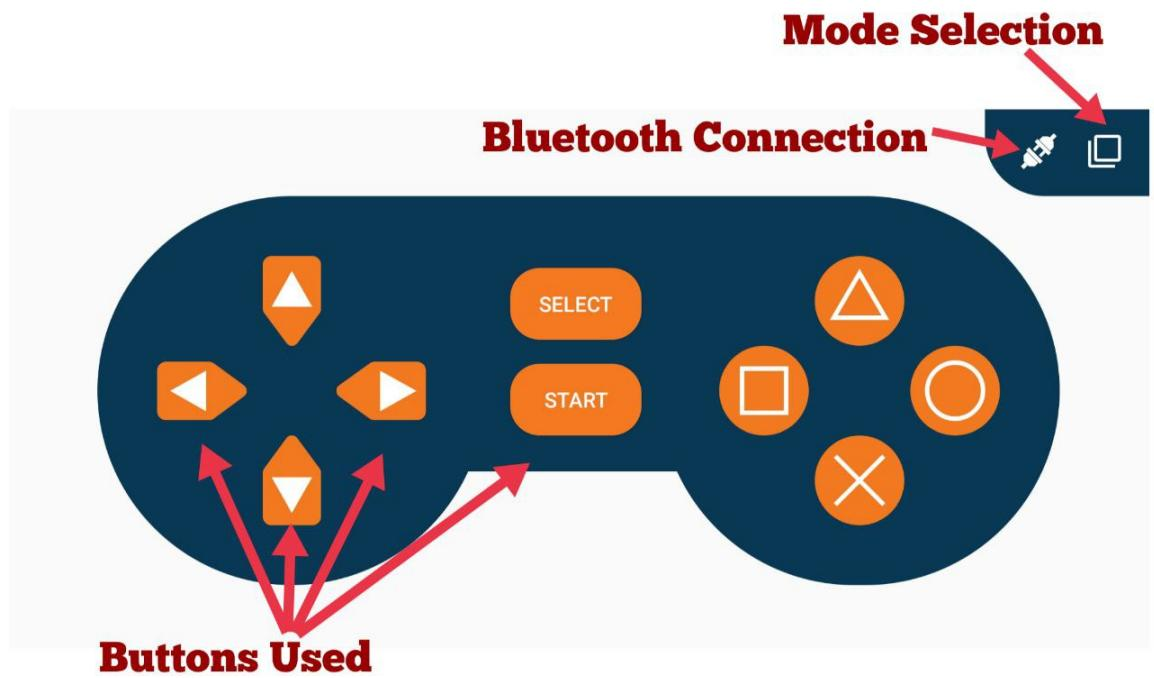

Figure 1.6.6.1: Dabble app Interface
1.6.6. Open the Dabble application. Select gamepad option in the app and then select Digital Mode and connect it app to ESP-32 by connecting it ESP-32 bluetooth as shown in Figure 1.6.6.1.